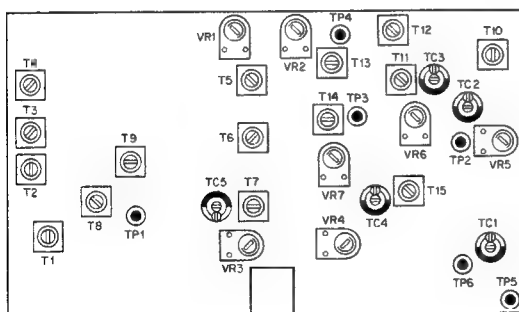
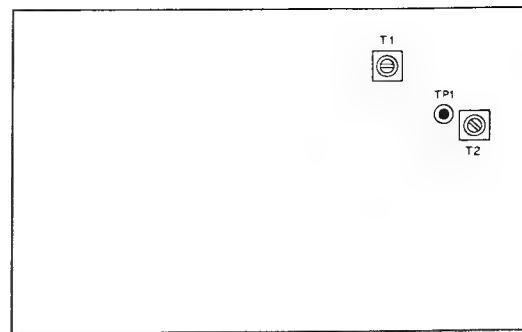

Fig. 24 IF unit
Fig. 25 RF unit
- 1) Connect RF VTVM to TP5 in IF unit (X48-1150-00) and adjust oscillation coil T1 in CAR-1 unit (X50-1310-00) until the meter reads 50mV (refer to **Fig. 21**). (refer to **Fig. 24** IF unit)
- Adjust T1 to T7 in IF unit (X48-1150-00) and T2 in RF unit (X44-1150-00) until S meter reads maximum value (refer to Fig. 24 and Fig. 25).
- 2) Turn the RF GAIN knob fully counterclockwise and adjust VR3 and TC5 in IF unit (X48-1150-00) alternately until the output becomes minimum (refer to Fig. 24).
- 1) After receiving marker signal and turning ON NB switch, adjust T8 and T9 until the terminal voltage at TP1 on IF unit (X48-1150-00) becomes minimum (refer to Fig. 24).
- 1) After adjusting each section until sensitivity becomes maximum, adjust VR1 in IF unit (X48-1150-00) under no signal condition, thus making zero point adjustment of S meter (refer to Fig. 24).